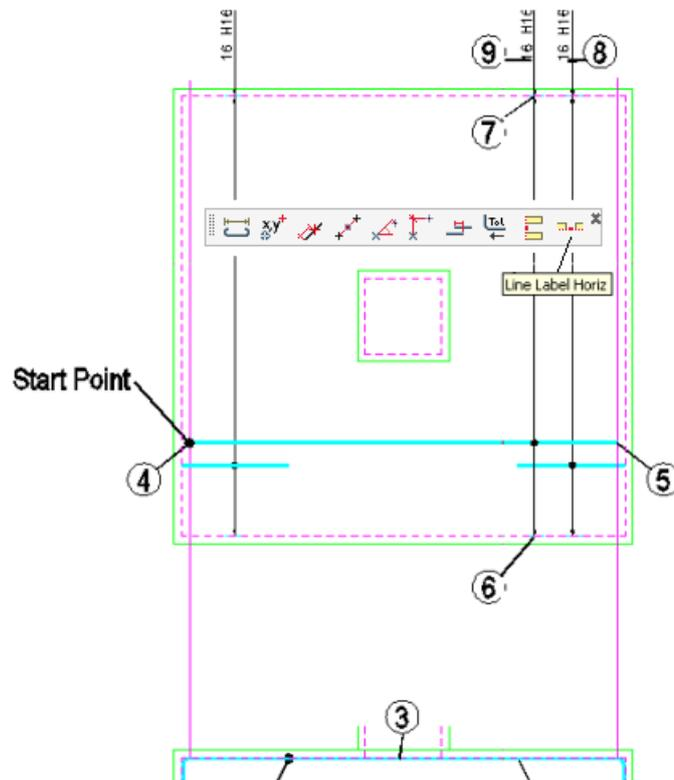

Figure 3.6.18:3 Placing order to add lap bar and range to the Plan View
- ▶ Place the Straight Bar as indicated in figure 3.6.18:3 above using the **RebarCAD Snap Line Label Horizontal** to line up the Bar Labels. Note that construction lines have already been added to ease the placement of the bar.